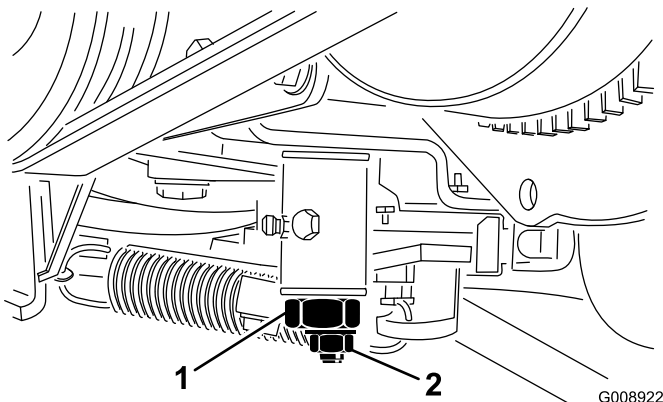

Figure 56
3. Loosen the locknut on the traction adjustment cam (Figure 56).